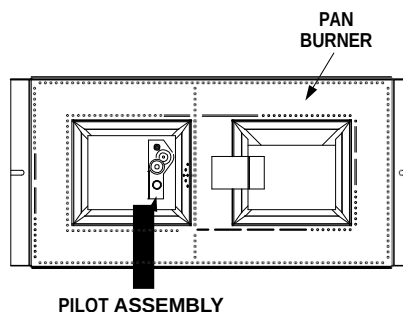

Figure 73
B. Install the burner as shown in **Figure 73**.
On millivolt systems, the piezo igniter, Hi/Lo flame adjustment knob, and pilot and main gas ON/OFF control knob are located on the modesty panel. On both millivolt and electronic systems the gas valve is located behind the modesty panel. See **Figure 73**.
Refer to **Figure 73** for access to the gas control valve. Millivolt appliances will be fitted with the gas control valve shown in **Figure 74**.
To light electronic appliances refer to the detailed lighting instructions found in both English and French on **pages 61 and 62** of these instructions respectively. **Electronic appliance lighting instructions may also be found on the pull out lighting instruction labels attached to the gas control valve.** Electronic appliances are fitted with an ON/OFF Rocker Switch for appliance ON/OFF control. Refer to **Figure 73** for its location.